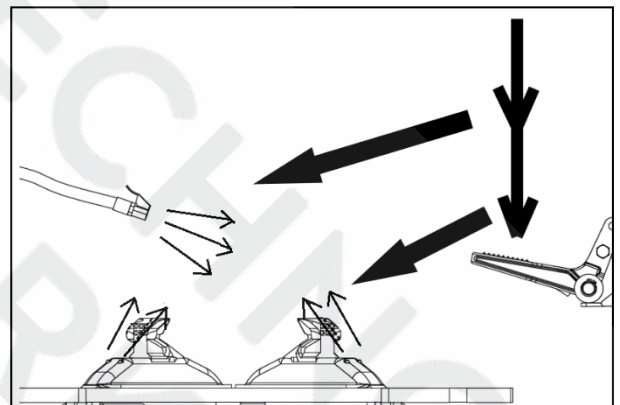

FIG34
- Use the diesel oil to wash the hexangular shaft and quadric horizontal arm (Fig34).